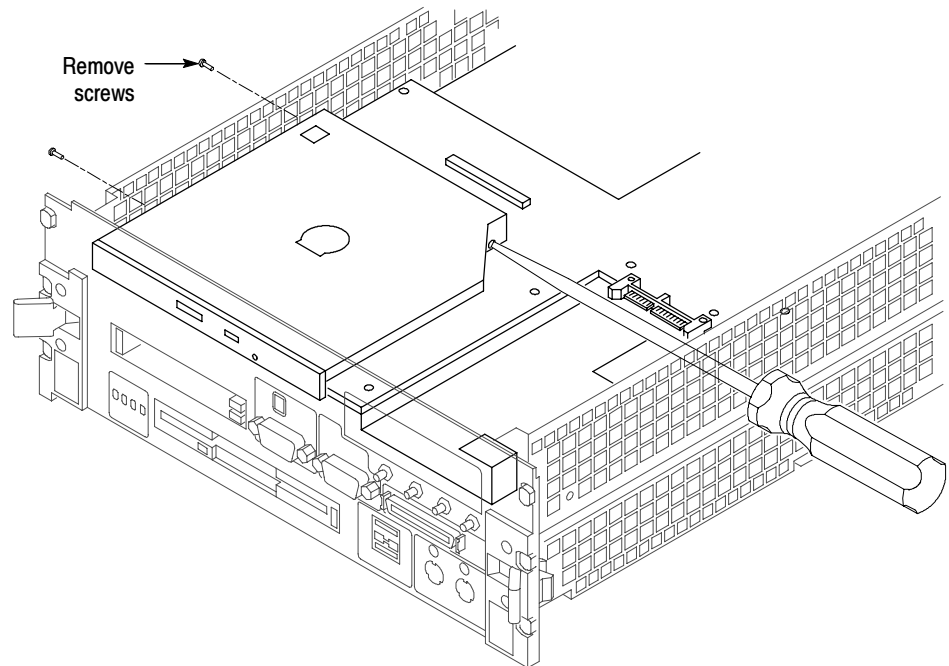

Figure 5: Remove screws from the CD drive bracket
1. Using a #0 Phillips head screwdriver with a 6-inch long shaft, remove the two screws on the side of the CD drive bracket by reaching through one of the holes in the chassis as shown in Figure 5.